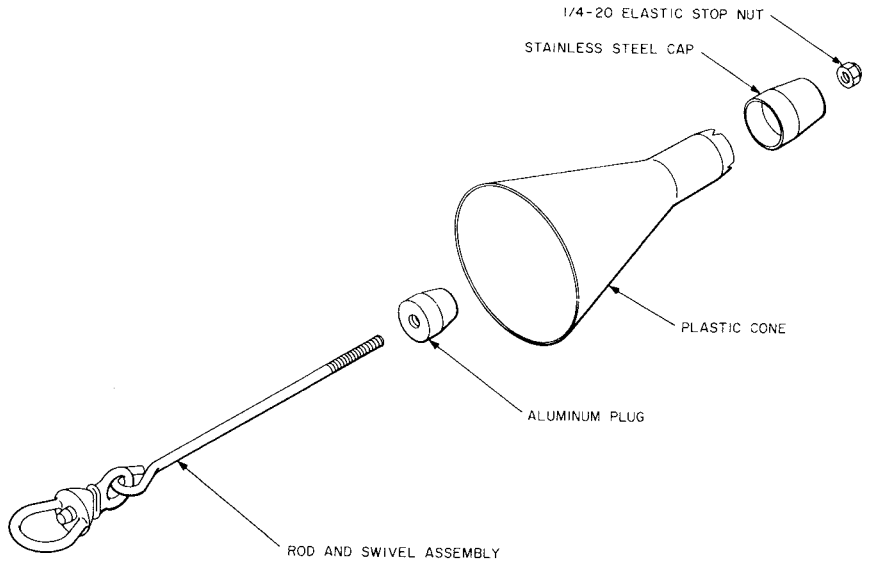

Fig. 4—Missile Assembly
4.03 If the cone is too large, mark the circumference at the point of contact with the duct and cut the large end of the cone to proper size with a pair of scissors. If the cone is too small for the duct to be rodded, disassemble the missile, place a new cone in the duct, and mark the circumference of the cone at the point of contact with the duct. Cut the new cone on the mark with a pair of scissors. Reassemble the missile as shown in Fig. 4.